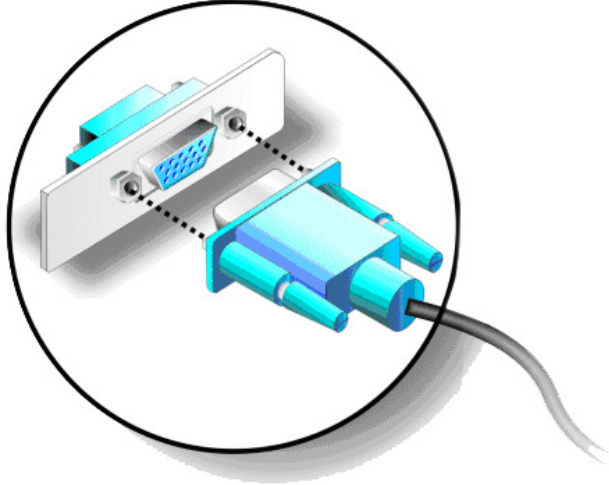

Figure 5-21: VGA Connector
Step 3: **Insert the VGA connector** Once the connectors are properly aligned with the insert the male connector from the VGA screen into the female connector on the 3308290. See **Figure 5-21**.